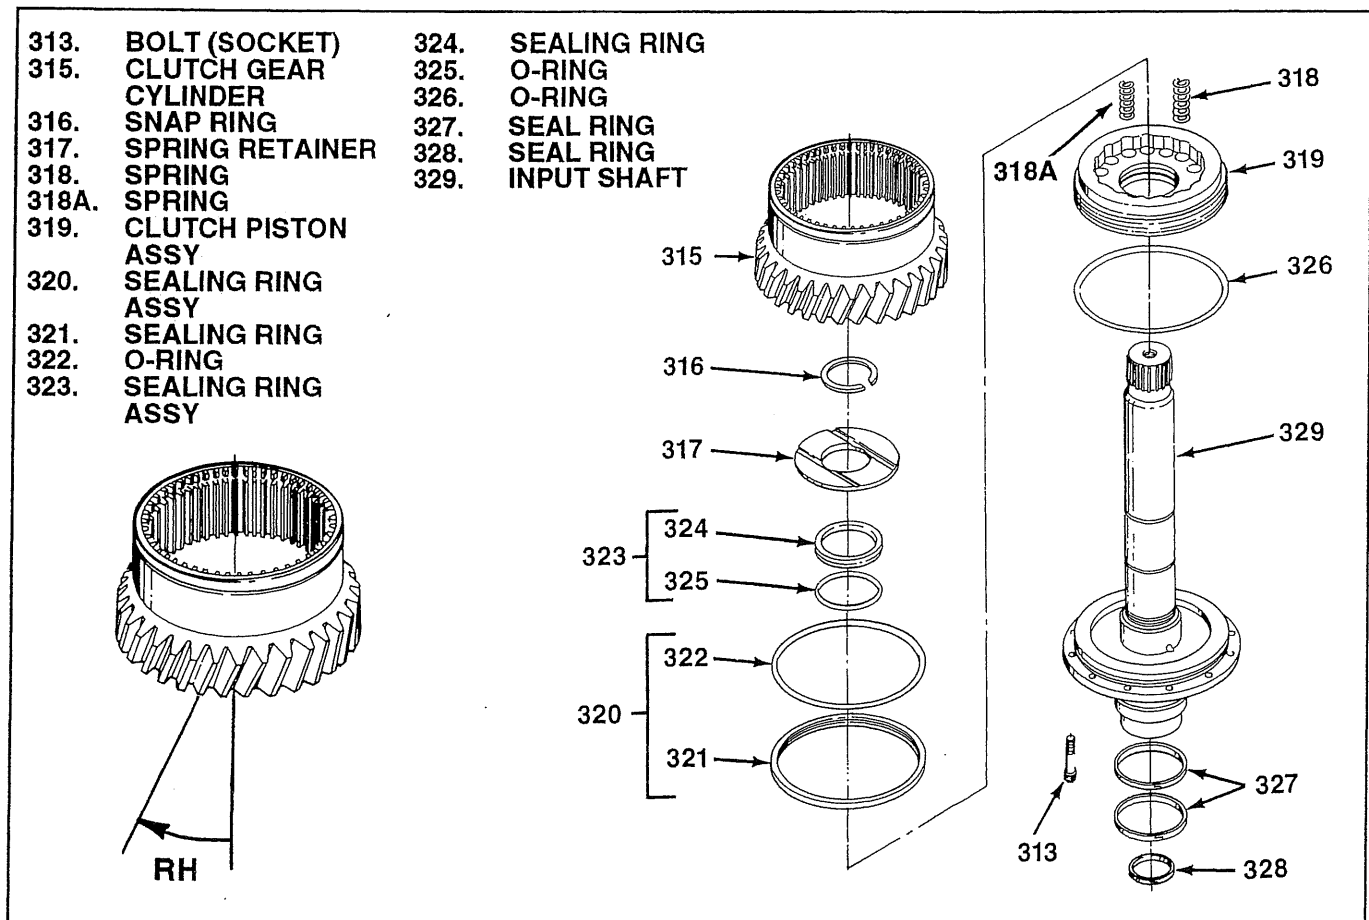

Figure 5-5. Input Clutch Cylinder and Piston
Assemble input clutch piston and cylinder as follows (see figure 5-5):
6. Install spring retainer (317). Expand snap ring (316) and slide onto shaft up against spring retainer (317).
7. Using assembly tool T-5001, press down on spring retainer (317) to compress springs (318, and if used 318A) and provide access to shaft groove for snap ring (316). Install snap ring in shaft groove. Remove shaft assembly, holding fixture and assembly tool from arbor press. Remove assembly tool from shaft assembly.
8. The helical on the input clutch gear must be right handed. That means the teeth must be inclined to the right when viewed from the face of the gear (see figure 5-5). If the incorrect helical (lay clutch) gear is installed there may be resulting damage to the rear lay shaft bearing.
9. Using guide pins install clutch gear cylinder (315) over clutch piston assembly (319) and onto input shaft (329). Install twelve bolts (313). Torque bolts to 16-18 lb-ft (22-25 Nm).